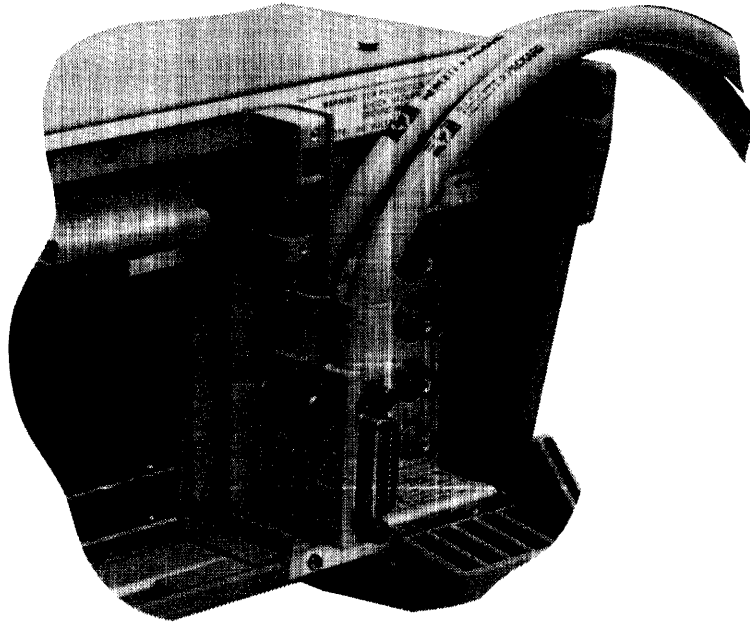

Figure 3-4. Standard Bus Connections
Figure 3-4 shows the standard bus connection. In order for these components to communicate with one another, each must have its own unique address. In a cluster configuration there can be no more than two interface cables connected at one point. Star connections (3 cables connected at one point) are not allowed in the Model 64000.
- d. Using an HP-IB cable, connect the disc to the 64000 System Bus at the development station configured as the Master Controller. See figure 3-4 for standard bus connection.